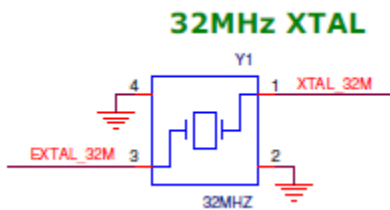

Figure 11. FRDM-KW36 32 MHz reference oscillator circuit
- Figure 11 on page 12 shows the 32 MHz external crystal Y1. The Bluetooth LE specification requires the frequency to be accurate less than ± 50 ppm. The FRDM-KW36 is equipped with a ± 10 ppm oscillator.